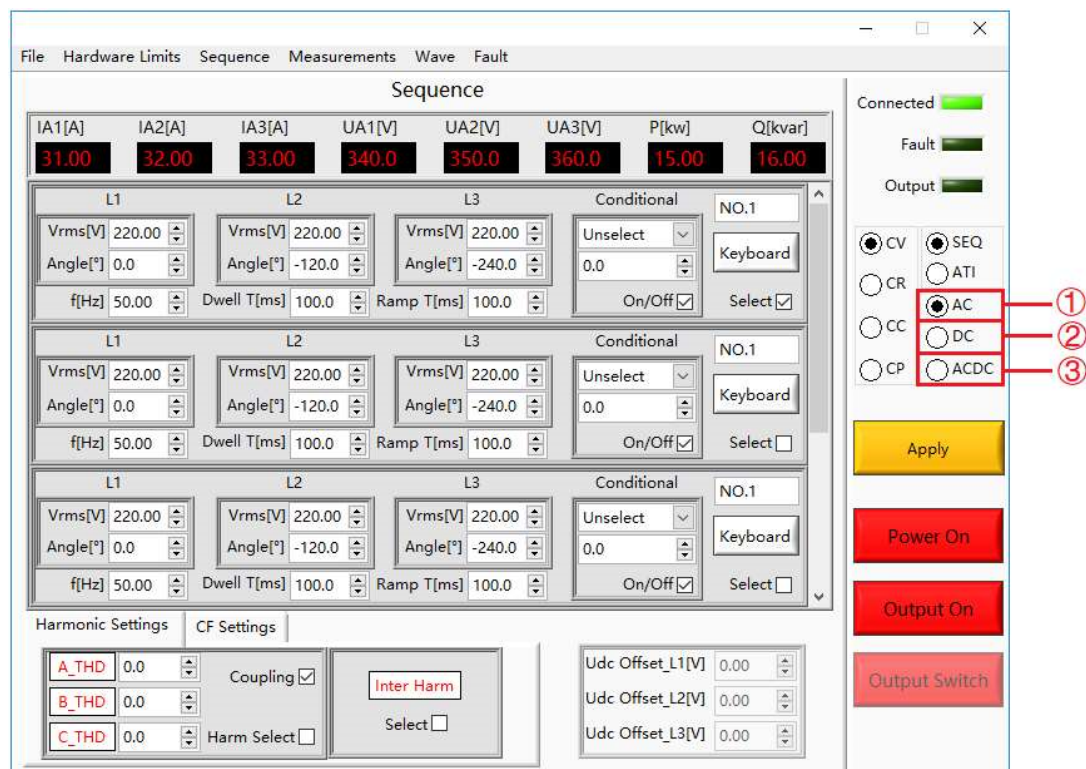
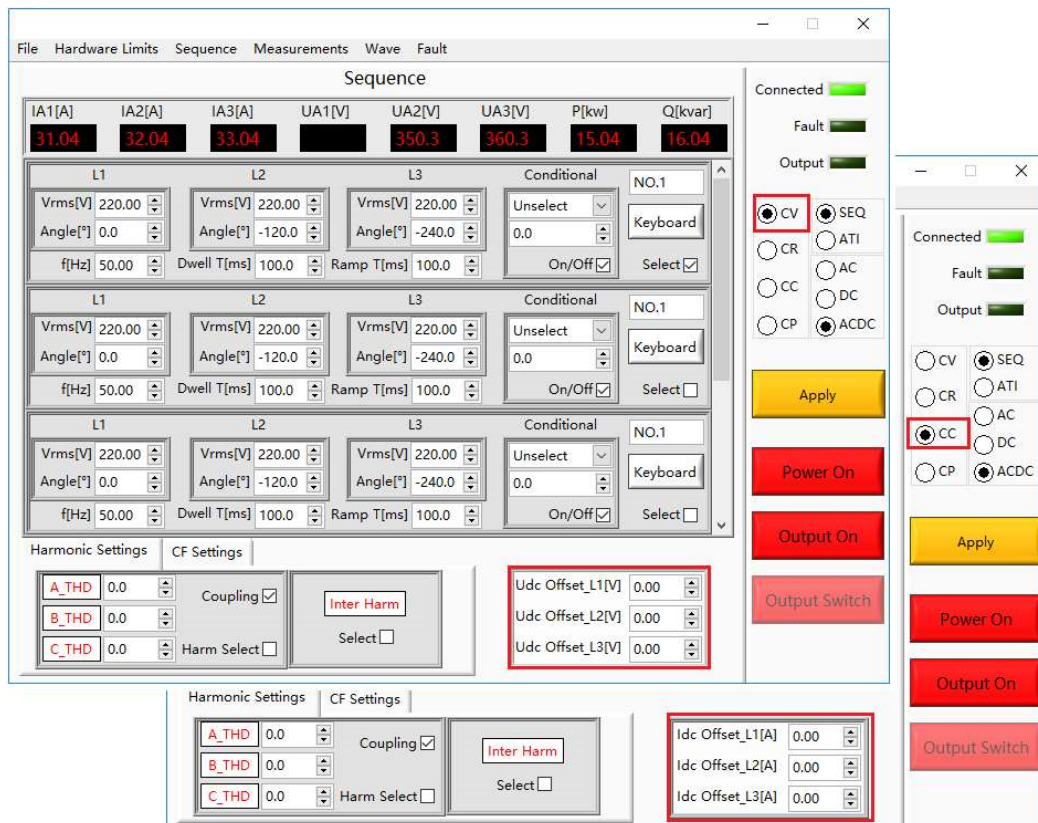

Figure 5-13 Output mode
Figure 5-14 DC offset voltage/Current
Click "Sequence Mode" to enter the panel, select AC output mode (AC) on the right side of the panel (Figure 5-13①), the user can select different operating modes (CV/CC/CP) according to the test requirements, and set the AC voltage/current/power. After setting the parameters, click "Apply"→"Power On"→"Output On", the power supply is on and output.
Click "Sequence" to enter the panel, select AC+DC output mode (AC+DC) on the right side (Figure 5-13③), the user can choose different operating modes (CV/CC) according to the test requirements, and set the AC voltage/current and DC offset voltage/current (Figure 5-14). After setting the parameters, click "Apply"→"Power On"→"Output On" in turn, and the power supply is on.
Click "Sequence Mode" to enter panel, select the DC output mode (DC) on the right side(Figure 5-13②), the user can select different operating modes (CV/CC/CP) according to the test requirements, and set the DC voltage/ Current. When the parameter setting is completed, click "Apply"→"Power On"→"Output On", the power supply is on and outputs DC voltage/current/Power.